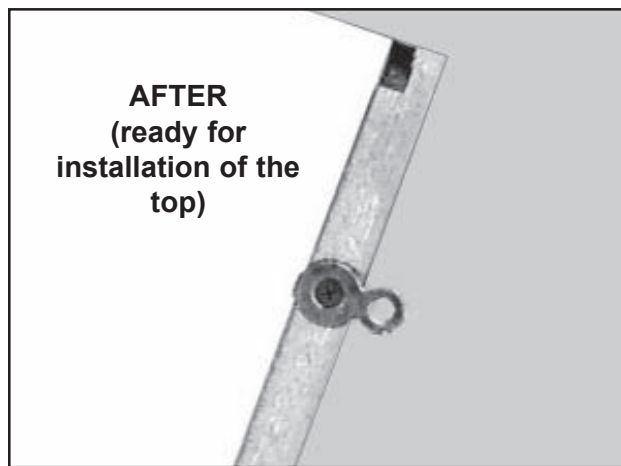

Figure 2. “Figure 8” Fitting - Final Orientation
2. Loosen the mounting screws and turn the fittings so that the small ends of the fittings project outward (Figure 2). Tighten the screws.